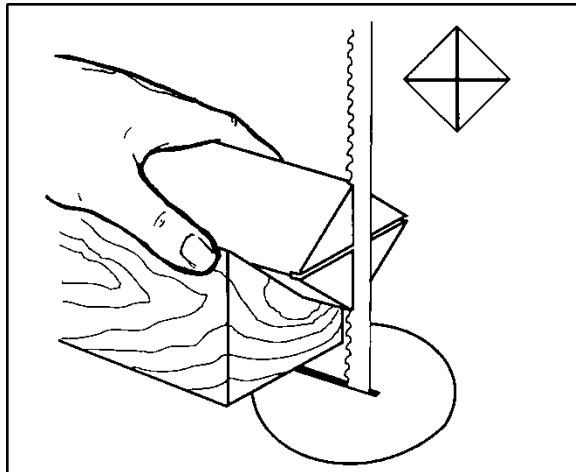

Figure 19
- Extremely hard woods may require kerfs cut into the ends of the stock (Figure 19) using a band saw, so the wood will accept the spur center and the live center.